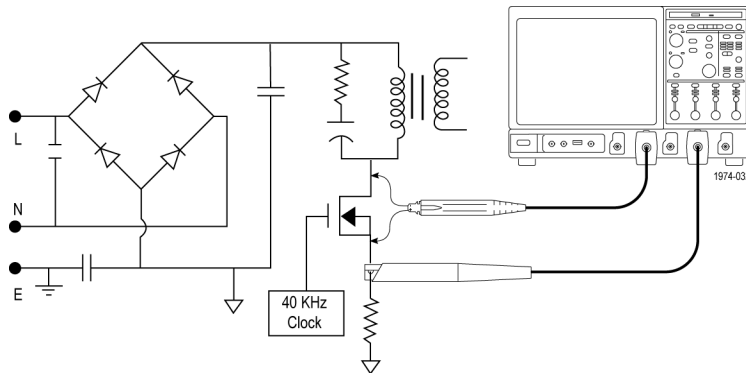

Figure 2: Power supply test points
1. Connect the differential probe across the switching device and attach a current probe in series with the device. (See Figure 2.)